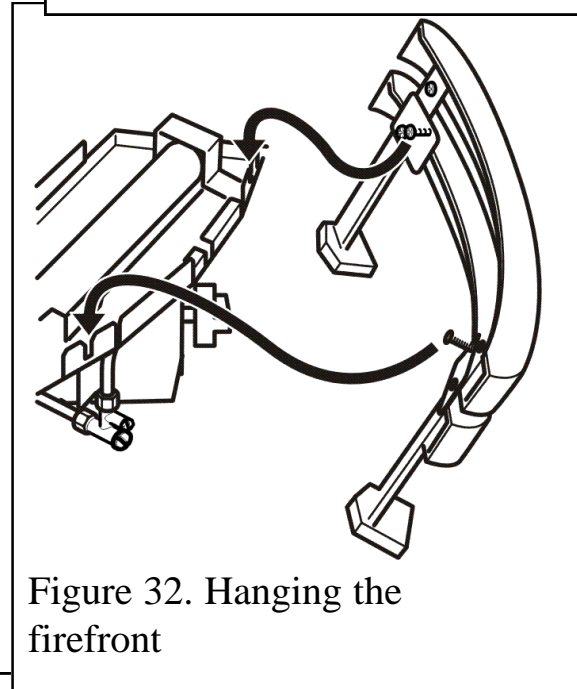

Figure 32. Hanging the firefront
3. Locate the firefront as in figure 32. The screw heads should locate into the slots in the burner tray.